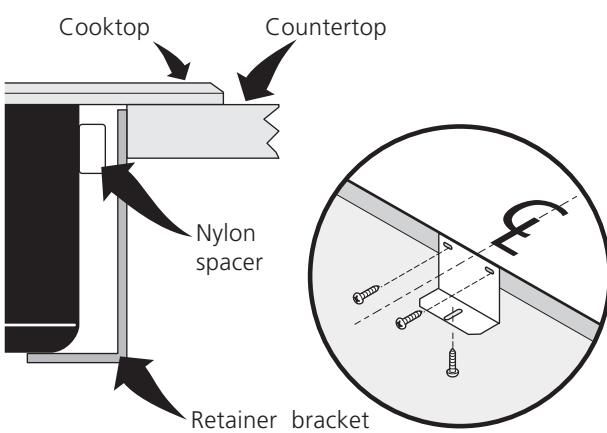

Figure 7
2. Install the retainer brackets. See Figure 7
The retainer brackets **MUST** be installed, to meet local codes or, in their absence, with the National Electrical Code ANSI/NFPA No. 70—latest edition, or with CSA Standard C22.1, Canadian Electrical Code, Part 1 (see Figure 7).